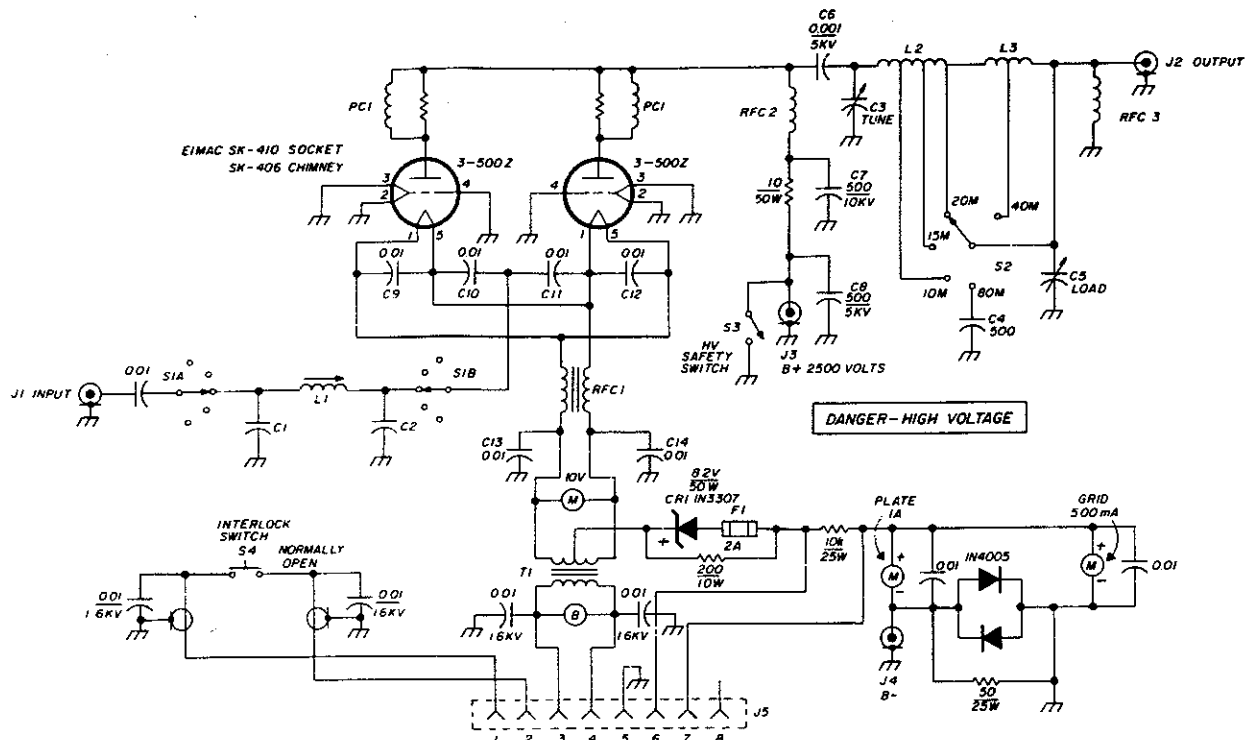

fig. 7. Schematic diagram of the 3-500Z linear amplifier.
Armed with the information discussed so far, it is possible to draw up a schematic for a cathode driven, 2-kW PEP linear amplifier using two 3-500Z tubes in parallel (see **fig. 7**). This is a true "grounded-grid" circuit, as the grids are at both dc and rf ground potential.
prod wire of the type used for instrument test leads (10-kV insulating rating) or equivalent high-voltage cable. TV-type capacitors are used for lead filtering (fig. 7).
fig. 7. A simple filter circuit (A) for low voltage leads is made up of a 1000-volt feedthrough capacitor (Nytronics CP09A3 style, 0.01- μ F, with case grounded and mounting stud). These, or similar capacitors can often be found in surplus stores. The disc capacitors are 1 kV (Sprague 5GA-D10, or equivalent). The filter coil is ten turns of no. 16 AWG (1.3 mm), 1.3-cm ($\frac{1}{2}$ -inch) diameter spaced to 3.2 cm ($1\frac{1}{4}$ inches) long. The coil and capacitors are placed inside the chassis. High-voltage filter circuit (B). A high-voltage chassis connector (Millen or equivalent) is used. The capacitors are 500-pF, 10-kV TV-type, with stud mounts. Some Amateurs use a high-voltage coaxial connector for the B-plus lead and run the high voltage in RG-8/U coaxial cable with the outer sheath grounded as a safety factor.